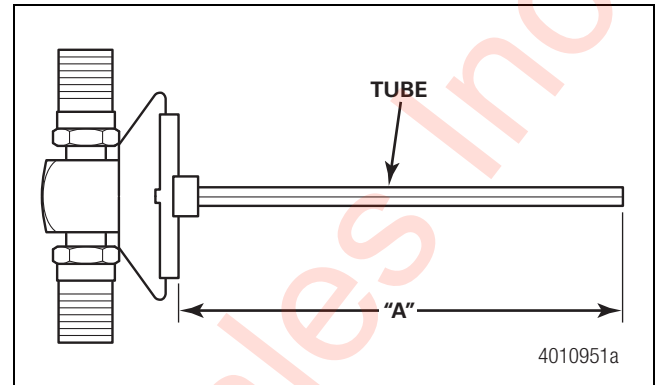

Figure 2.45
2. Ensure the correct length tube is assembled to the thru-tee. Refer to Table A for the correct length. Figure 2.45.